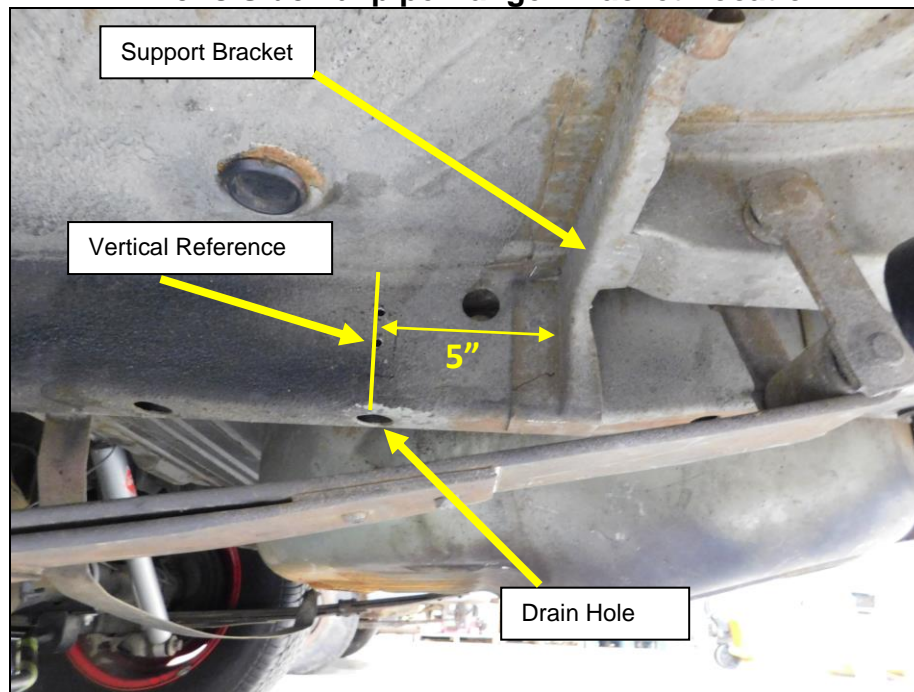

Figure 8
1. Measure from the support bracket just in front of the leaf spring shackle out toward the front of the car 5" as shown in **Figure 8** below. Make a mark at that point.